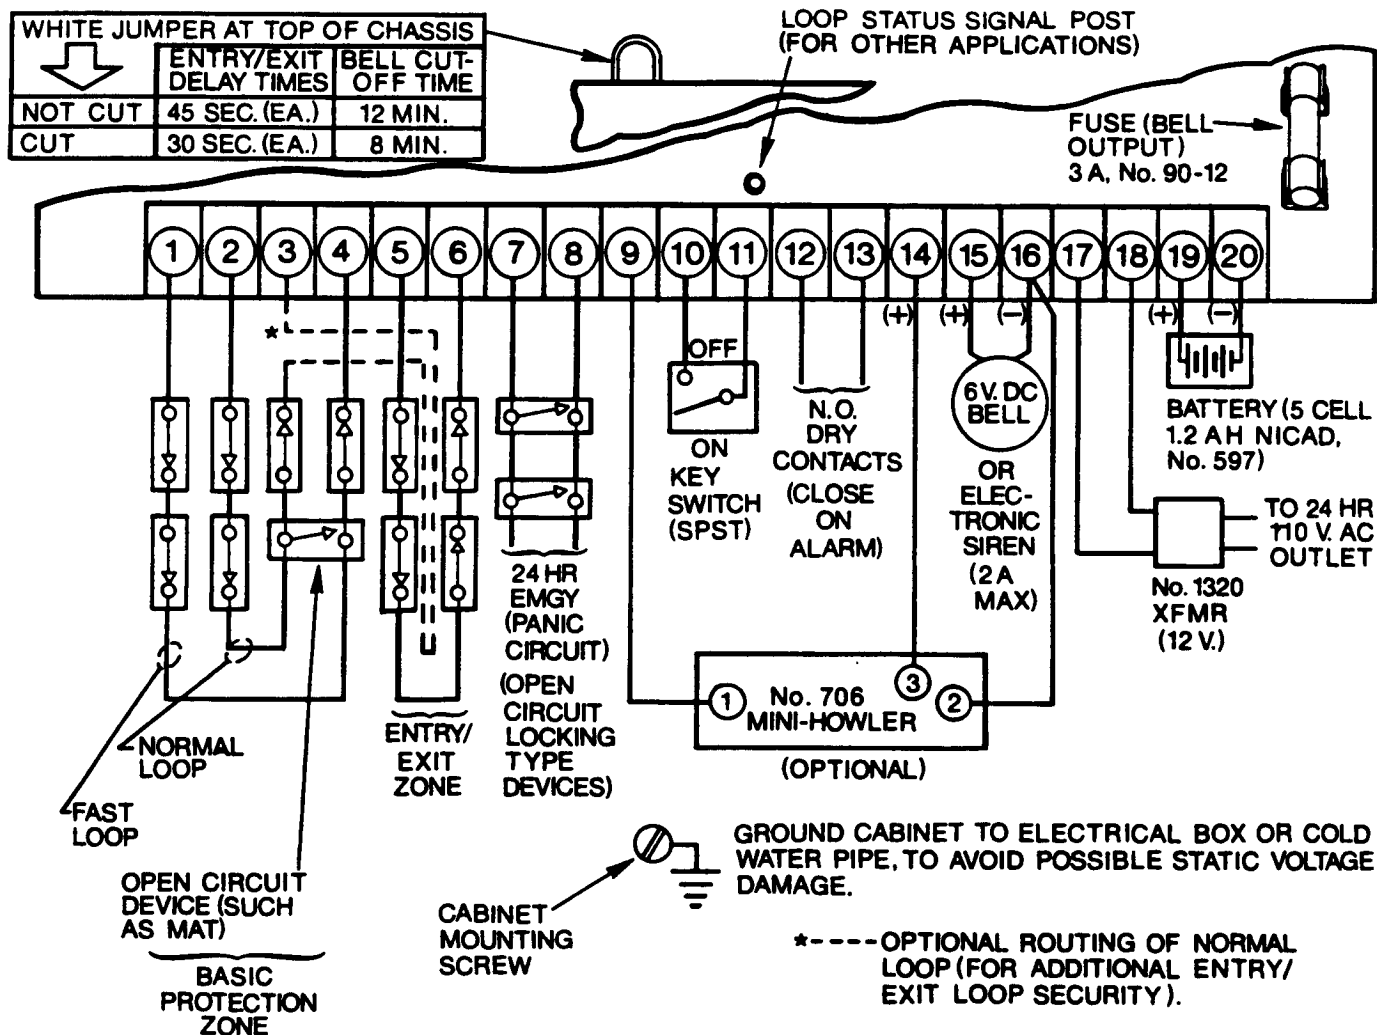

FIGURE 1: Field Connections
INSTALLATION AND WIRING: See Figure 1
A WHITE jumper is provided at the top of the chassis. If this jumper is cut it will shorten the factory provided entry delay, exit delay and "bell" cut-off times as tabulated in Figure 1.
This zone provides entry and exit times of 45 seconds each (30 seconds if the WHITE jumper is cut per Fig. 1).
For additional security (against shorts and grounds) the Basic Protection Zone's normal response loop may be routed along with the entry/exit loop as shown in Figure 1. A short between these loops will result in an immediate alarm when the system is ON.
- 9,14(+),16(-) No. 706 Mini-Howler (Optional): Connect as shown in Figure 1. The mini-howler will sound: 1) During the entry delay period. 2) In case of accidental closing with the entry/exit zone open. 3) If an alarm occurs in the entry/exit zone while the panel is ON. In this last case, the No. 706 will sound until the alarm bell cuts off or the entry/exit loop returns to normal (whichever occurs later). Be sure the jumper on the No. 706 is cut before wiring the mini-howler to the panel.
Note: Except during an emergency (panic) alarm, cut-off occurs after approximately 12 minutes (8 minutes if the WHITE jumper is cut per Fig. 1). The Alarm Memory LED remains lit. If the protective circuits are then normal the unit will report any subsequent alarm condition.